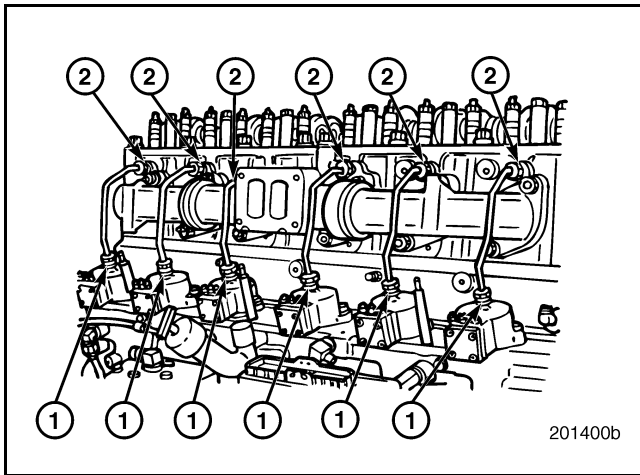

Figure 156 — Fuel Inlet Tube Assembly Removal
- Loosen the tube line nut at the unit pump for the No. 1 cylinder (Figure 156). Be careful to avoid twisting the line while loosening the nut.